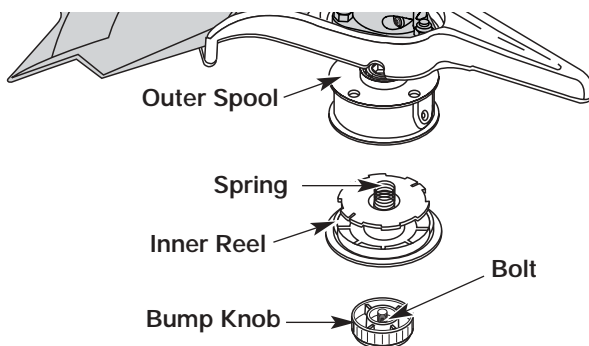

Fig. 32
1. Hold the outer spool with one hand and unscrew the Bump Knob clockwise (Fig. 32). Inspect the bolt inside the bump knob to make sure it moves freely. Replace the bump knob if damaged.
2. Remove the inner reel from the outer spool (Fig. 32).
3. Remove spring from the inner reel (Fig. 32).
1. Hold the outer spool with one hand and unscrew the bump knob clockwise (Fig. 32). Inspect the bolt inside the bump knob to make sure it moves freely. Replace the bump knob if damaged.
2. Remove the old inner reel from the outer spool (Fig. 32).
3. Remove the spring from the old inner reel (Fig. 32).